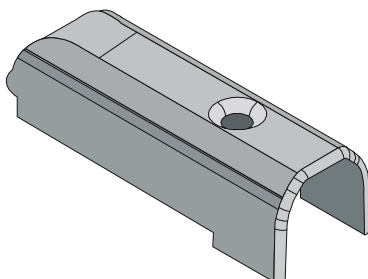

fig. 7
5. Fix the two covers (fig. 7).